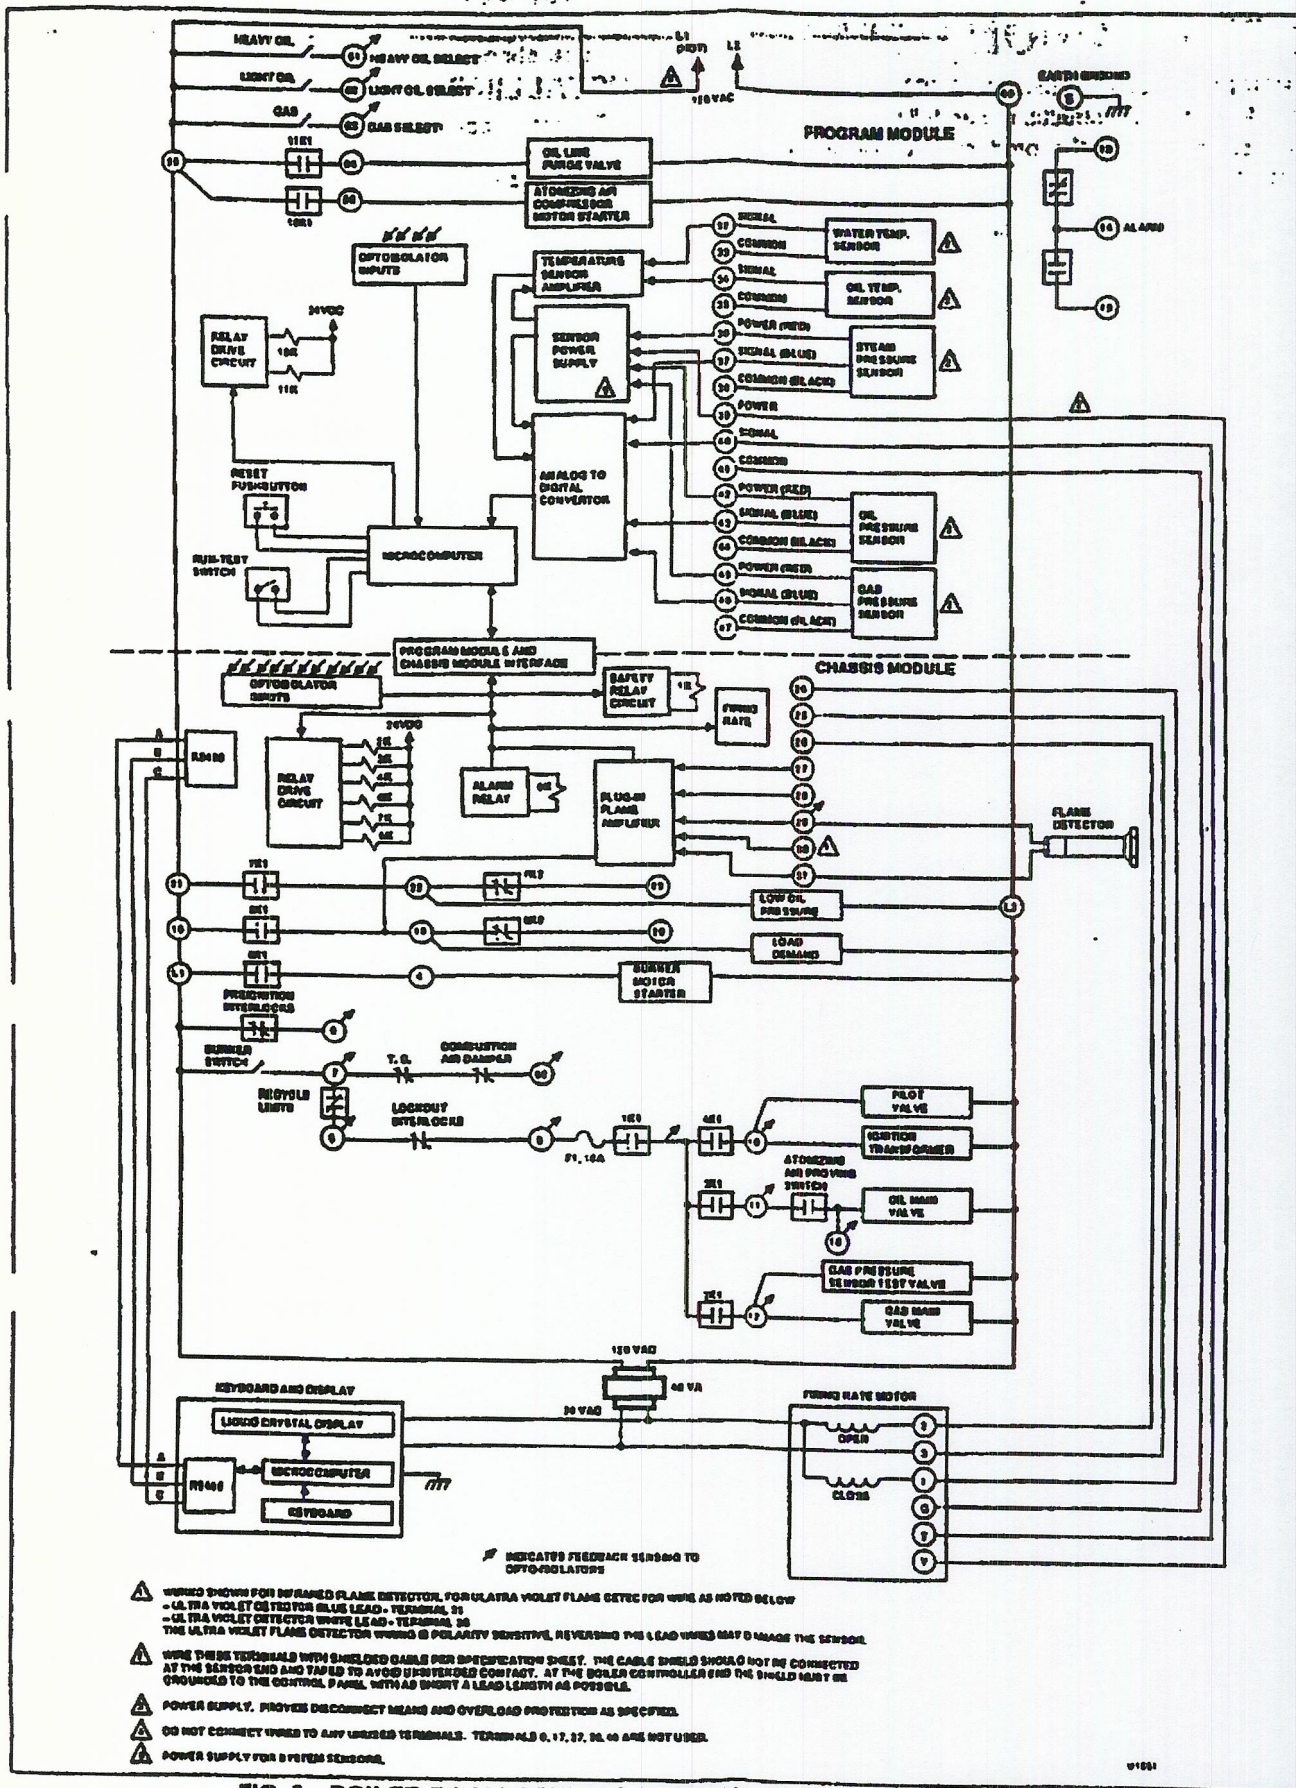

FIG. 3—BOILER ROOM CONTROL INTERNAL BLOCK WIRING DIAGRAM.
3. Figure 3 shows internal schematics and terminal connections to the 894-3435 motor.